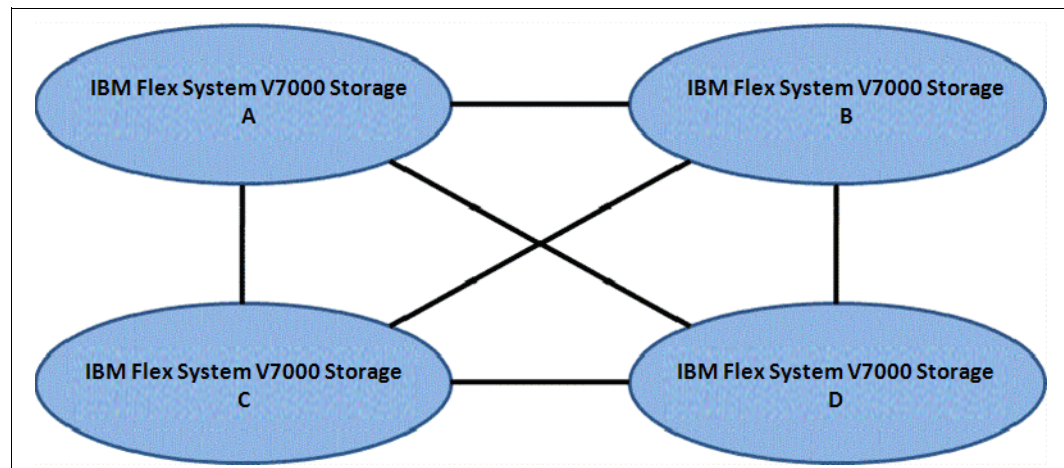

Figure 9-59 Full-meshed IBM Flex System V7000 Storage Node
- Full-meshed topology (Figure 9-59)